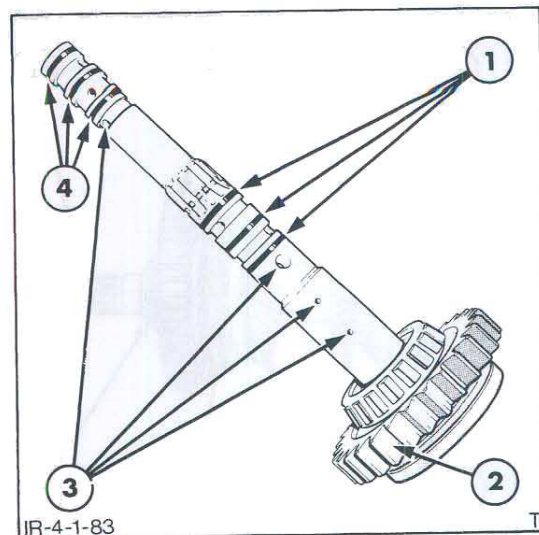

Figure 92
1. Thoroughly clean the rear input shaft, Figure 92, with a suitable solvent and allow to dry. Use compressed air to clean out the oil passages. Do not spin the bearing with compressed air.